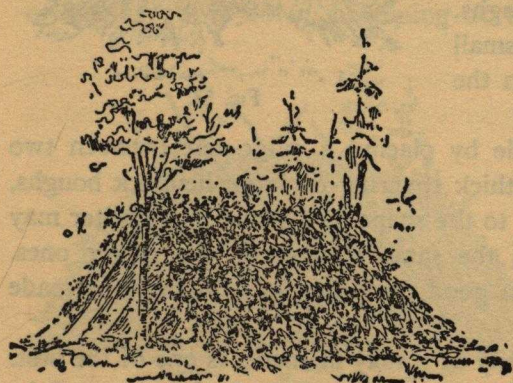

FIG. 52
*The Brush Camp.*—This camp (Fig. 52) may be made by placing a ridge-pole between two trees which stand about eight feet apart, then putting on a thick covering of large hemlock boughs, placing the top ends down, and making the sides conform to the shape of a tent. The shelter may be improved by thickening up with smaller twigs placed in the same manner as the larger ones. Such a shelter with the back closed similarly to the sides and a good camp fire in front may be made very comfortable.